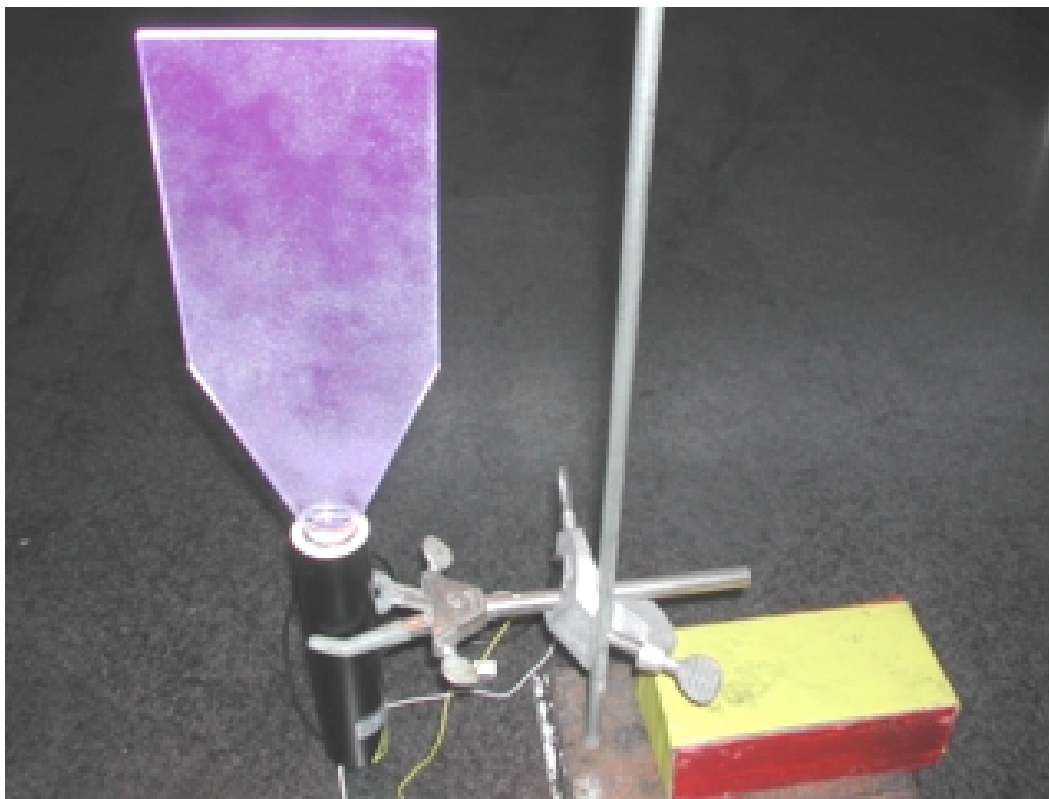

Figure 11: Scintillator bonding with photomultiplier undisturbed for 24-48 hours.
7. **Let the scintillator and photomultiplier sit undisturbed (Figure 11) for 24-48 hours or the length of time specified by the manufacturer of your optical cement.** You may brace the scintillator resting on top of the photomultiplier if necessary. Do not lift the scintillator end off the glass unless you plan to clean the surfaces again and re-glue.